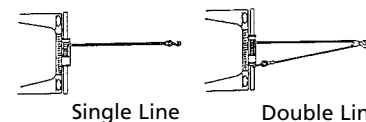

Figure 1
1. Do not maintain power to the winch if the motor stalls. Overloads can damage the winch and/or the wire rope and create unsafe operating conditions. FOR LOADS OVER 2/3 RATED CAPACITY, WE RECOMMEND THE USE OF THE OPTIONAL PULLEY BLOCK TO DOUBLE LINE THE WIRE ROPE (Figures 1). This reduces the load on the winch and the strain on the wire rope by approximately 50%. If attaching back to vehicle, attach to the frame or other load bearing part. **The vehicle engine should be running during winch operation to minimize battery drain and maximize winch power and speed.** If considerable winching is performed with the engine off, the battery may be too weak to restart the engine.